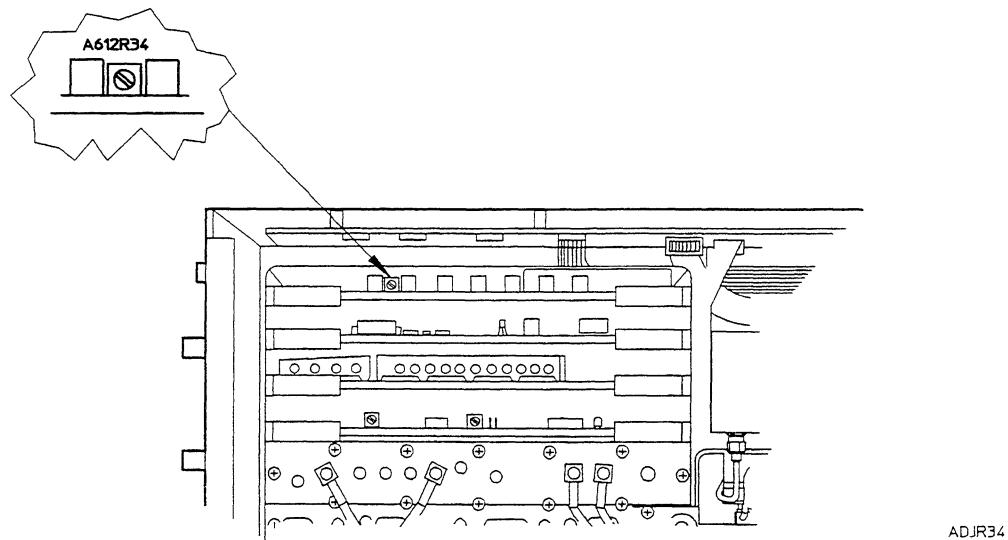

Figure 10-7. Frequency Deviation Adjustment Location
15. Adjust A612R34 for a minimum signal level on the microwave spectrum analyzer. (Refer to Figure 10-7 for the location of A612R34.)